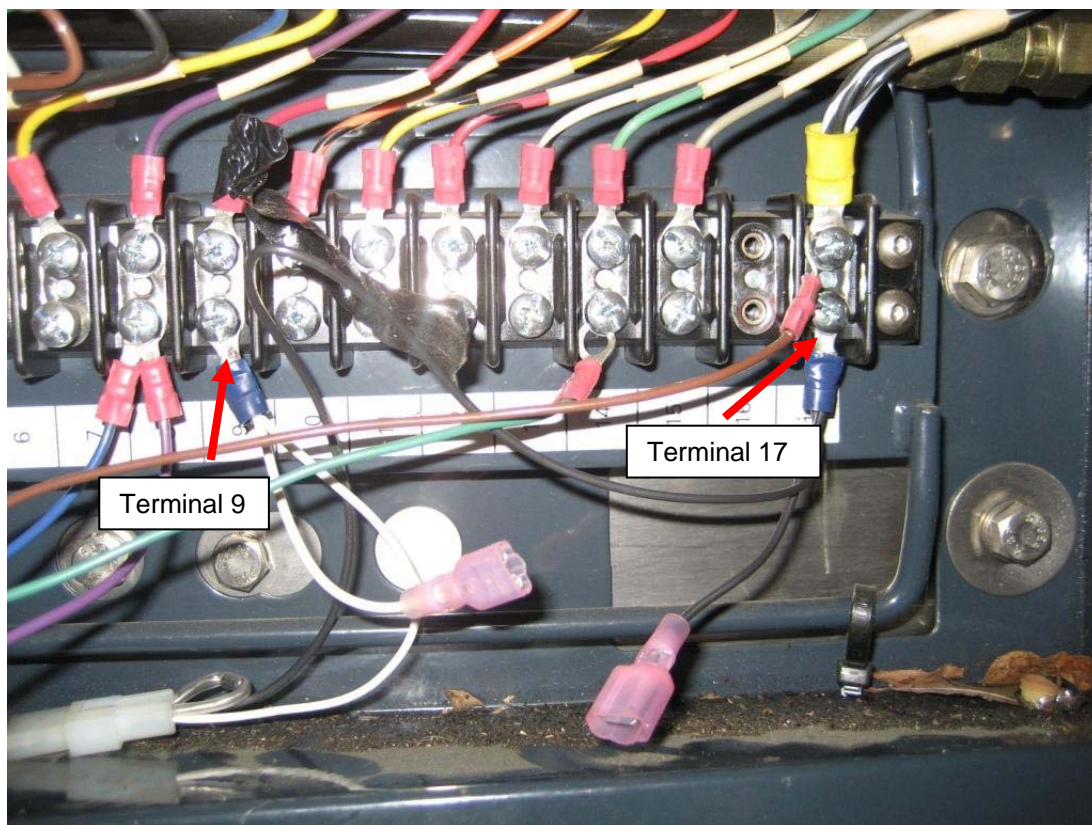

FIGURE 14: STOW-LOCK HARNESS CONNECTIONS
19. Refer to **Figure 14**. In Pull Box, connect White wire from Stow Lock Interface Harness to stud number 9 on the bottom of the terminal block and Black wire to stud number 17.